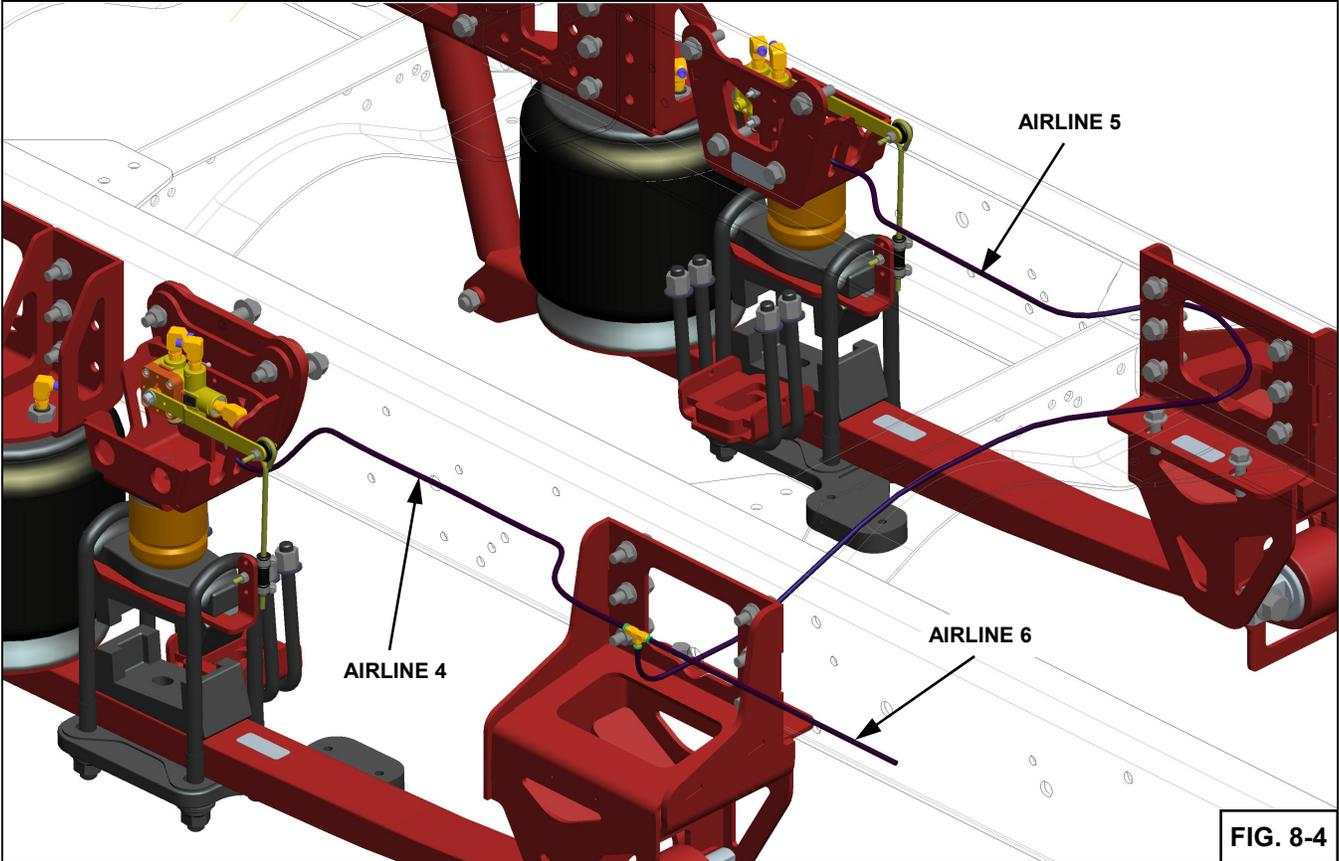

FIG. 8-4
2.2. Route **AIRLINES 4 & 5** from the “DUMP” port (Drivers Side) and “DUMP” port (Passenger Side) in the HEIGHT CONTROL VALVE to a supplied TEE, then **AIRLINE 6** from the Tee to the PILOT SUPPLY PORT of the AIR RESERVOIR SOLENOID. See Fig. 8-4, 8-5, and 8-6 for details.